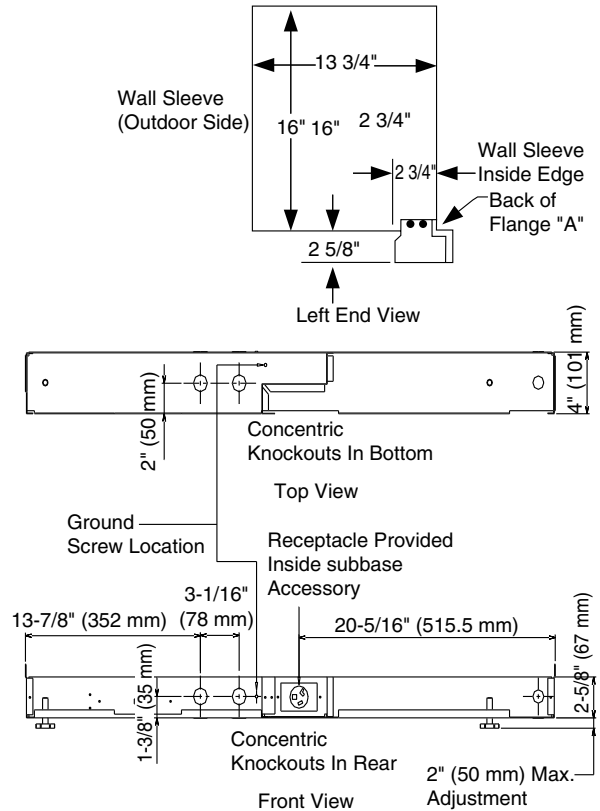

Figure 60 - Wiring Diagram
7. Wire subbase for appropriate voltage (Figure 60, next page).